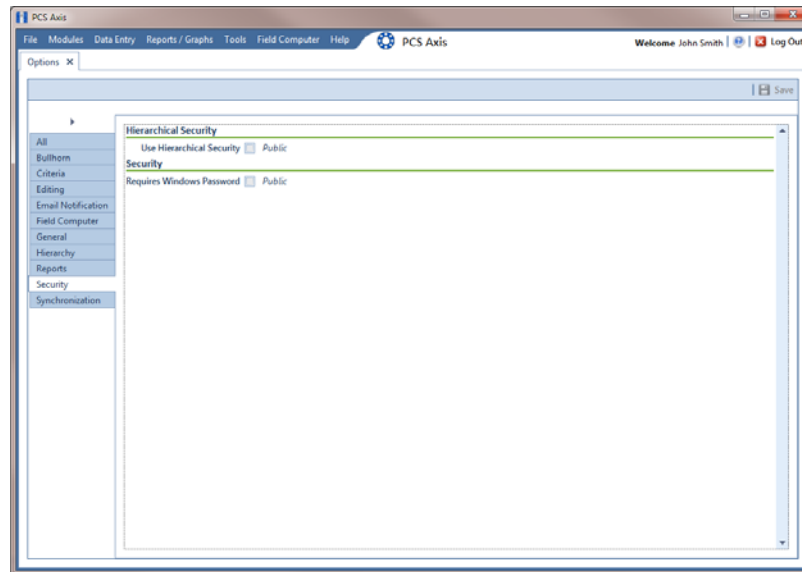

Figure 2-13. Security Options
- 2 Click the **Security** tab to open the *Security* options page (Figure 2-13).